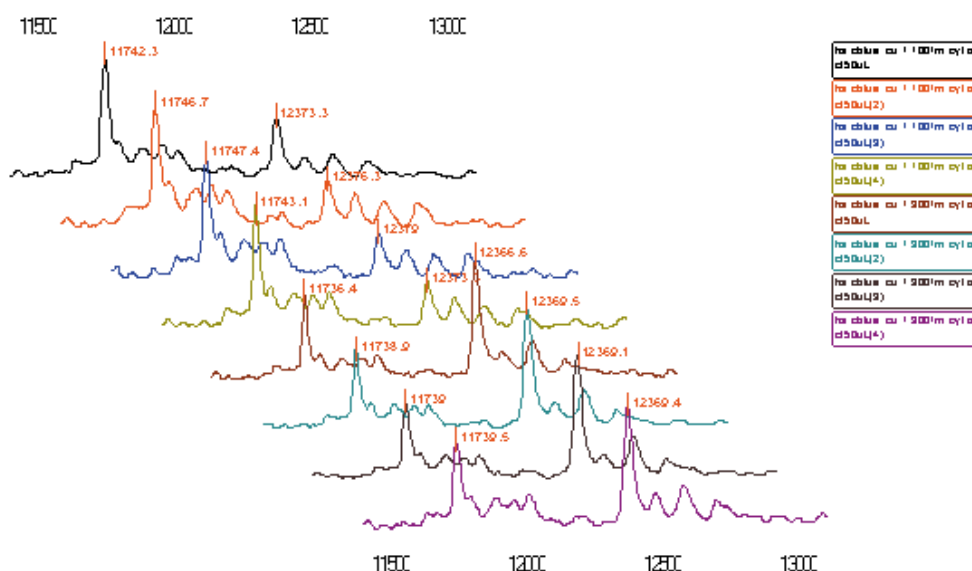

Figure 5-27: Data displayed in **Offset Overlaid** layout.
- **Offset Overlaid:** is similar to **Overlaid**, except that the data are arranged in a three-dimensional manner, with the molecular weights offset by a few thousand daltons (Figure 5-27).